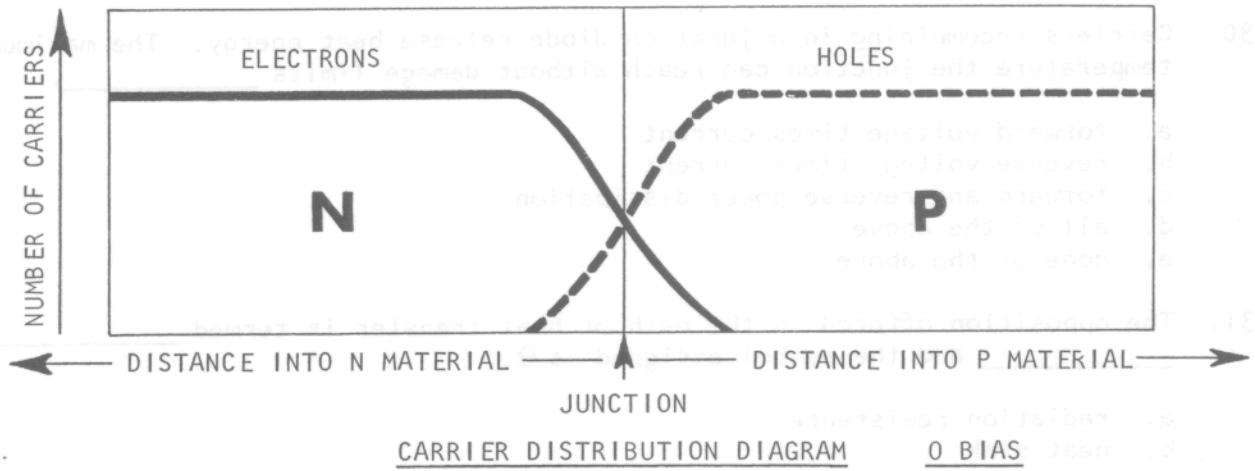

FIGURE 31A
36. In figure 31A, the lines indicating holes in the P side and electrons in the N side extend into the opposite sides of the material indicating the existence of _____ in the two sides of the junction.